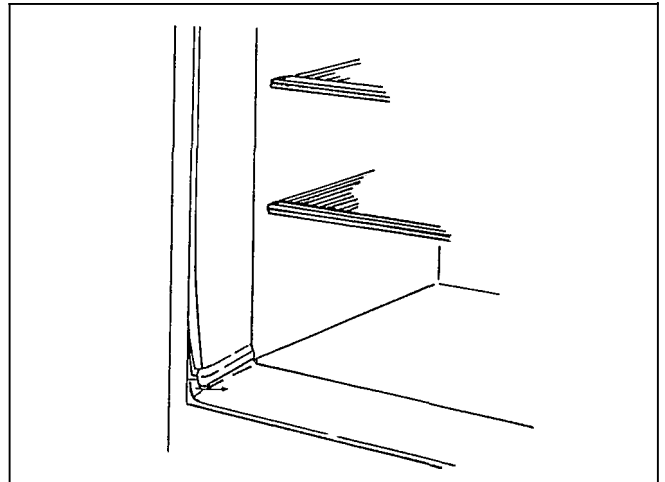

Figure B1 - Removing Breaker Trim
1. Starting at the lower corners, force the side trims toward the opposite side of the freezer, as shown in Figure B1.